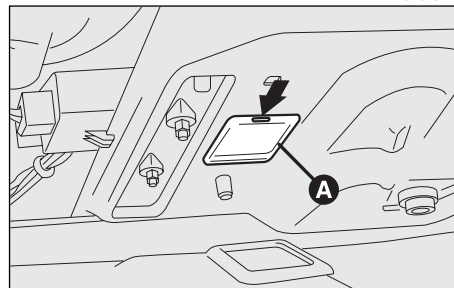

fig. 65
- Withdraw the clear plastic cover and bulb (**A-fig. 65**) using a flat-bladed screw-driver.